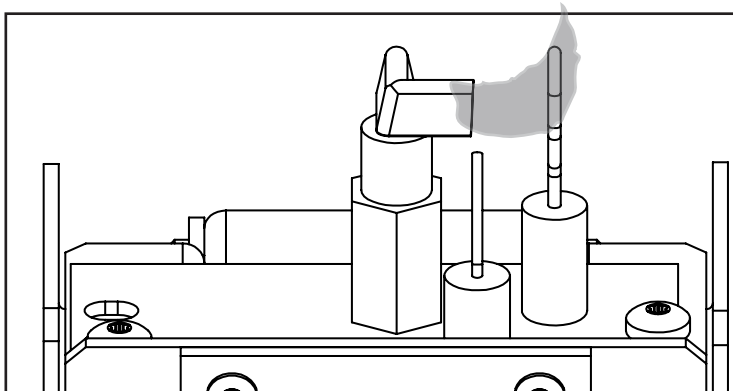

Figure 25: Flame Sensor Coverage
11. Relight the pilot and confirm the flame properly covers the flame sensor hook (see Figure 25). Should the pilot require adjustment, turn the adjustment screw clockwise to decrease or counterclockwise to increase until the correct flame is achieved.